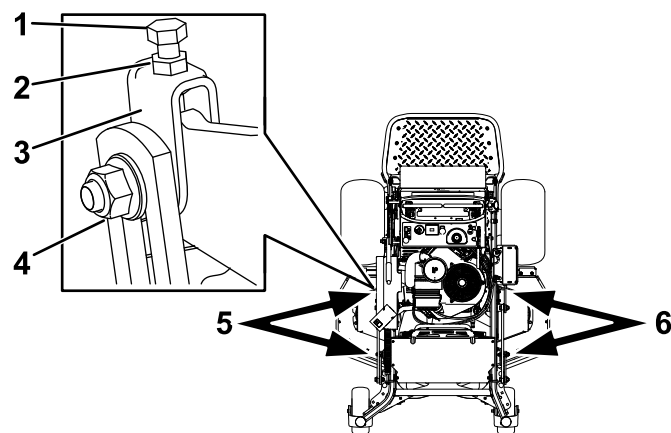

Figure 94
1. Loosen the side nut and jam nut in the yokes you want to adjust (Figure 94).
2. Rotate the top bolt of the yokes to adjust the height of the mower deck (Figure 94).